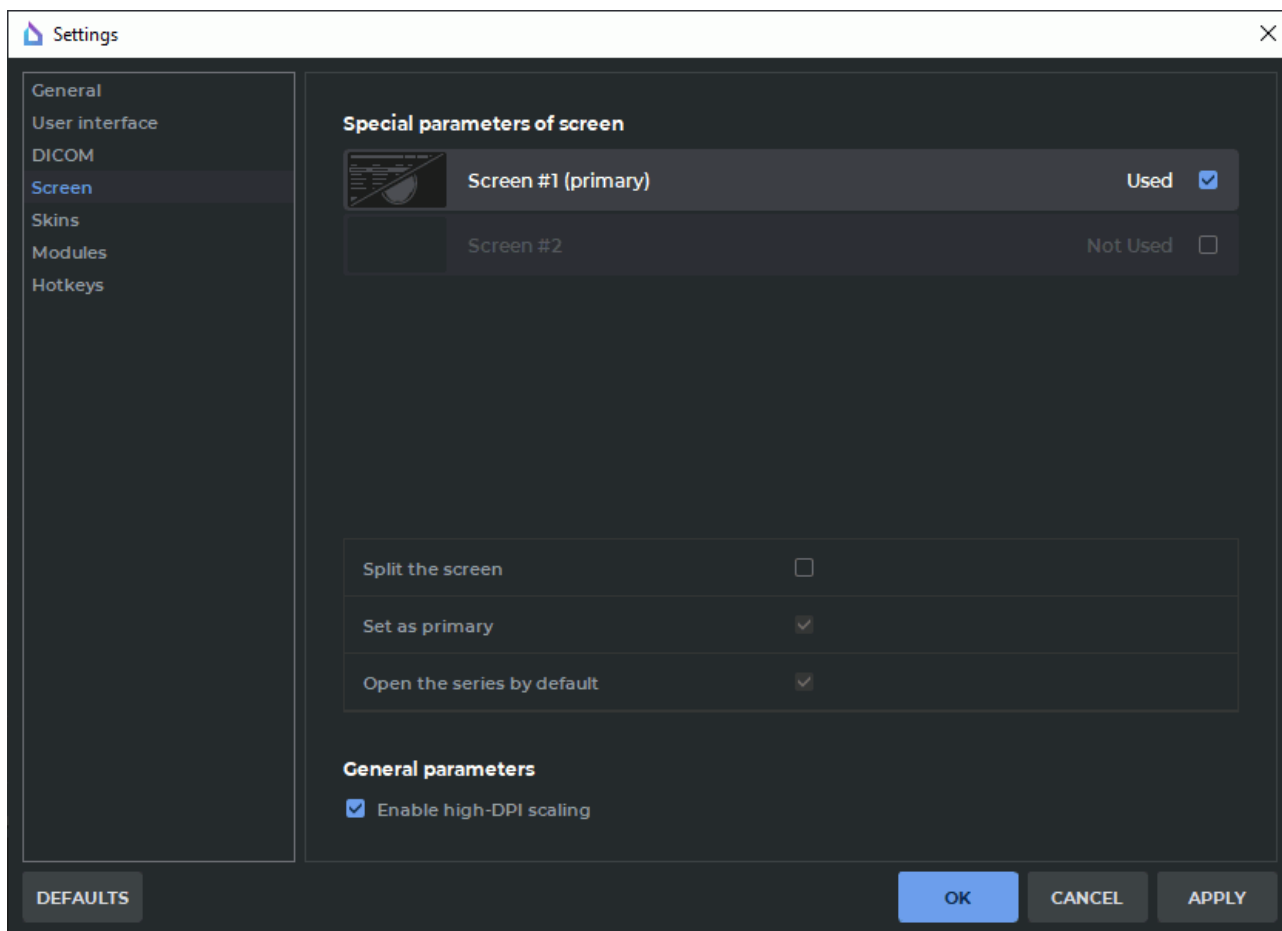

Figure 15.2: Monitor settings
2. Open the **Screen** section. The window similar to the one shown in Fig. 15.2 will pop up.